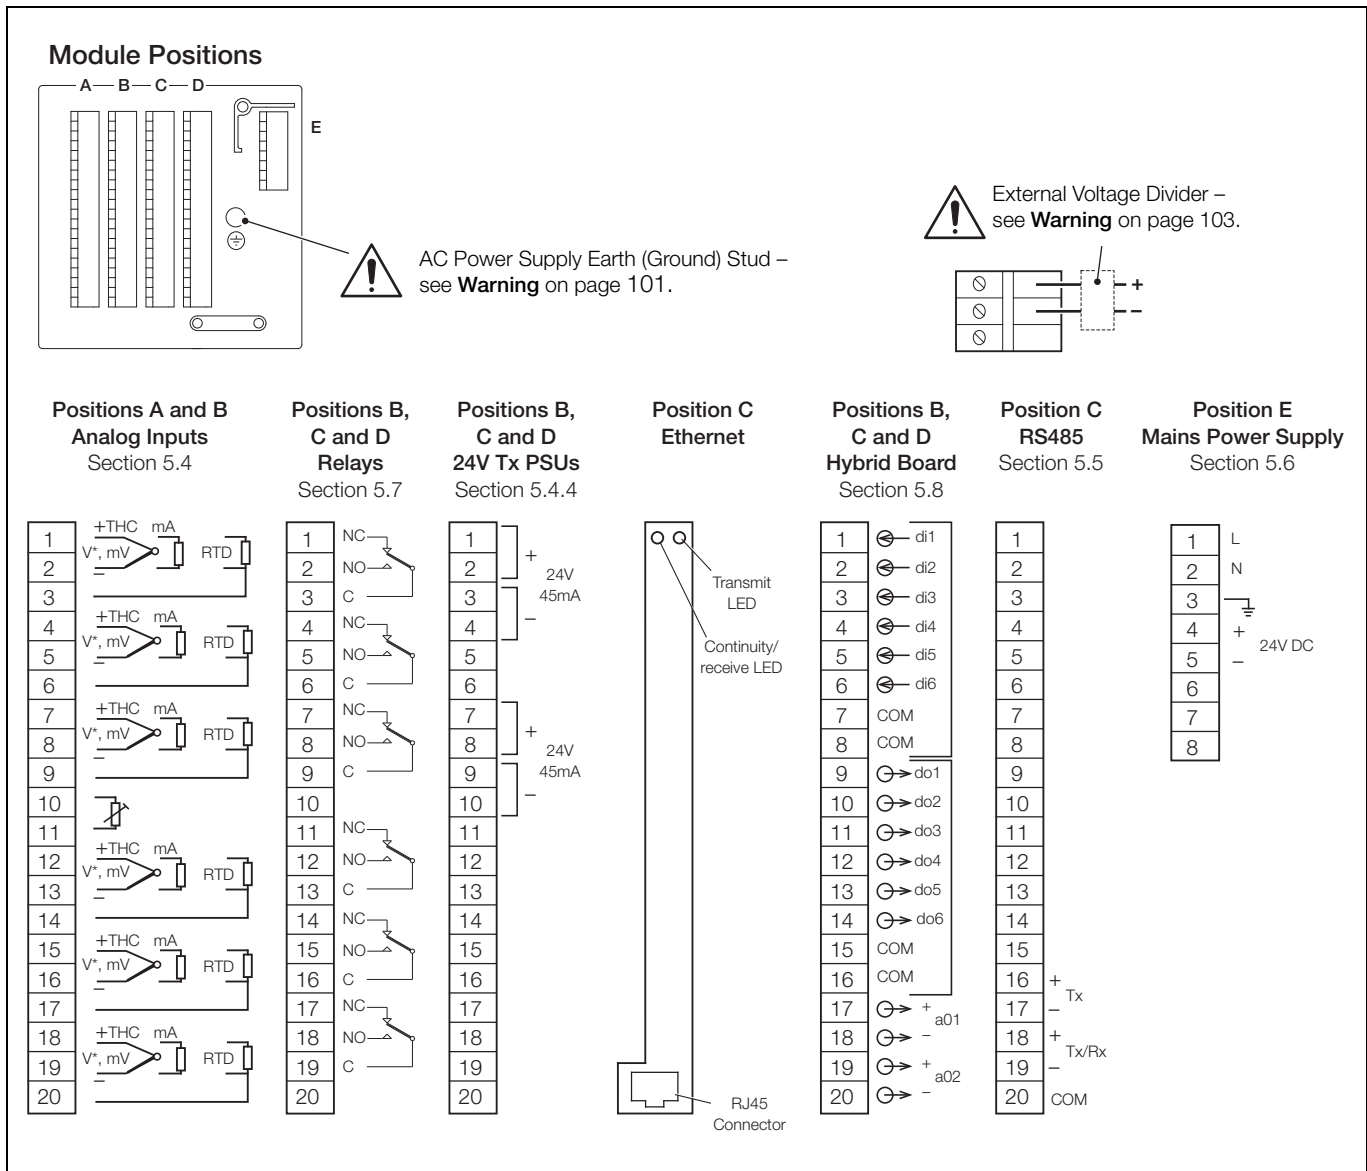

Fig. 7.5 Electrical Connections
Additionally, digital inputs from a hybrid module in position H (see Fig. 7.5) can be used to produce up to 32 Binary Encoded (BCD) digital states, e.g.:
- It is strongly recommended that screened cable is used for signal inputs and relay connections. Connect the screen to the earth (ground stud) – see Fig. 7.5, page 102.
Note. Refer also to Fig. 7.5 for terminal numbers.